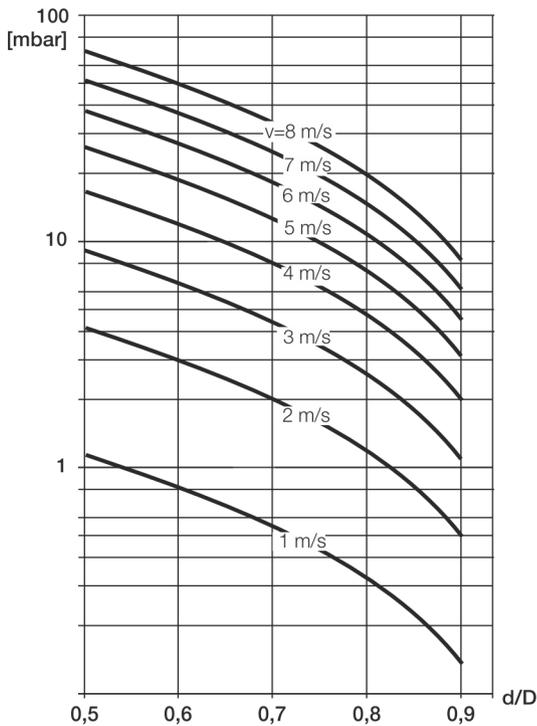

Figure 15: Flow rate nomogram for flange transition piece at $\alpha/2 = 8^\circ$
2. Determine the flow velocity based on the flow rate nomogram (Figure 15).
3. Read the pressure loss on the Y-axis in Figure 15.